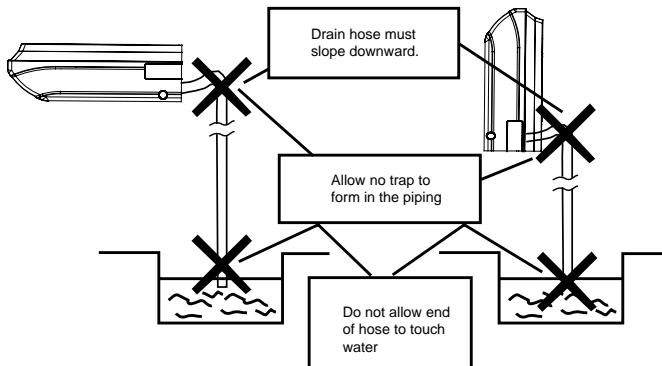

Fig.23
- (4) Connect the drain hose.(Fig.23)